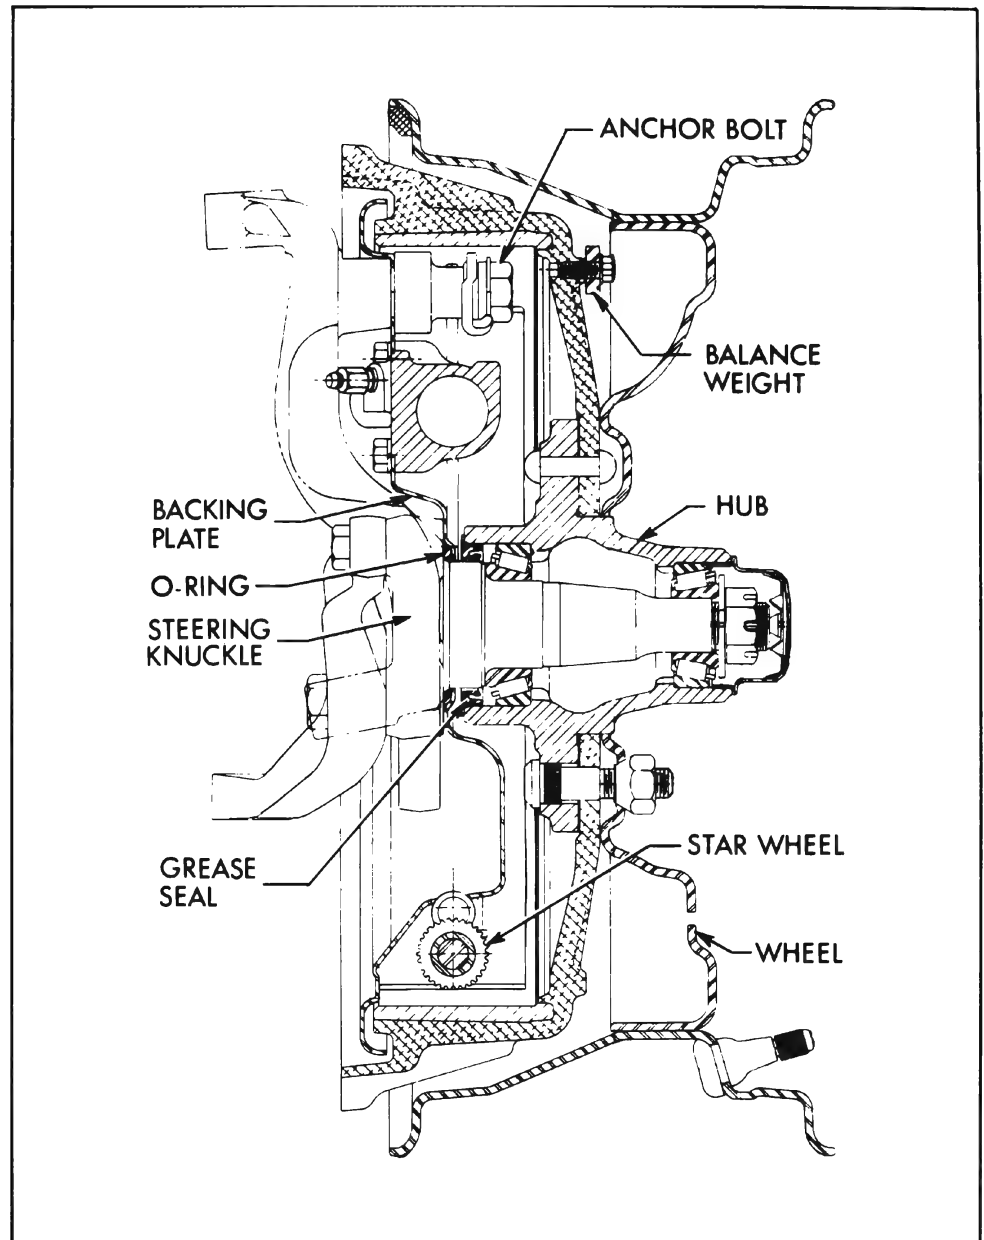

Figure 7-8—Front Wheel Hub and Bearings
9. Install wheel on spindle, then install outer bearing assembly, cone, safety washer and nut. See Figure 7-8.